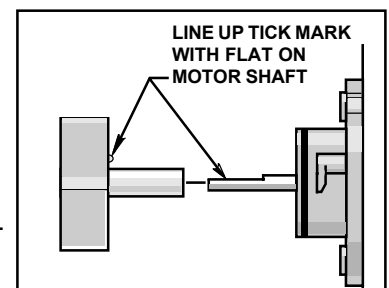

Figure 5. Prop Alignment
5. Pull the whipper propeller from the motor shaft. When re-assembling, make sure the propeller is properly aligned and seated on the motor shaft (fig 5.). **Failure to push**